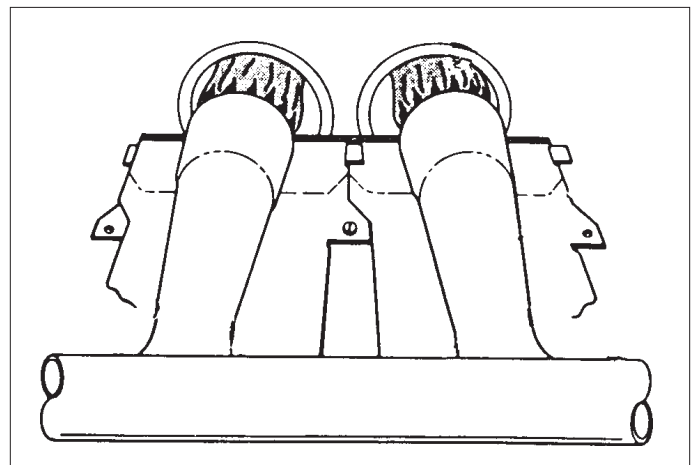

Figure 5. Burner Inspection
7. After the flame ignites, visually inspect the burner assembly to ensure that the flame is drawn directly into the center of the heat exchanger tube, as shown in Figure 5. The end of the flame will be out of sight